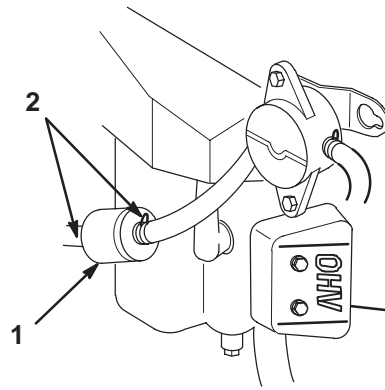

Figure 43
3. Squeeze the ends of the hose clamps together and slide them away from the filter (Fig. 43).